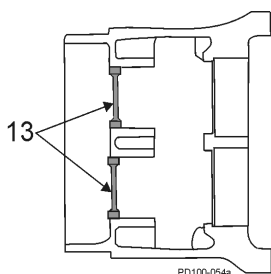

Figure 42 - Remove Rear Oil Seals
9. Press out and discard both rear oil seals in the gear case (Figure 42, item 13).